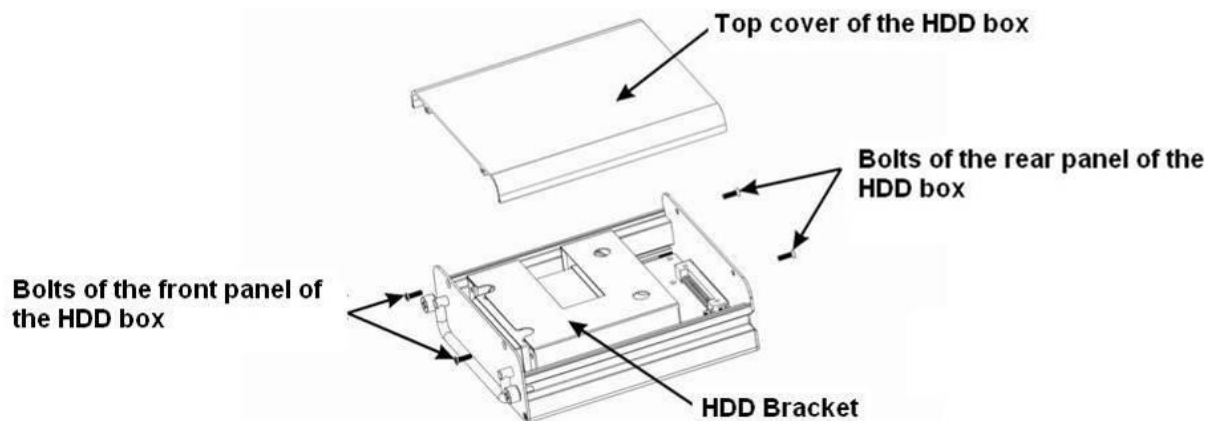

Figure 3-1
1) The HDD box and the parts are shown as below. See Figure 3-1. Please loosen the bolts of front panel and rear panel of the HDD box and then remove the top cover of the HDD box.